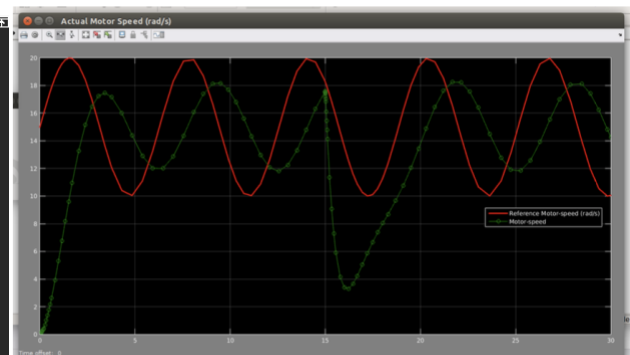

Figure 1.14: Response of the controller to a sinusoidal reference speed.
5. You are, of course, not restricted to step-inputs. Let us apply a reference-speed signal which is sinusoidal with amplitude of 5 rad/s and a bias of 15 rad/s and the frequency of the sine-wave is 1 rad/s. Keep the step torque-load at $t = 15$ sec. Your scope should look like Fig. 1.14. Are the voltages and currents within limits?